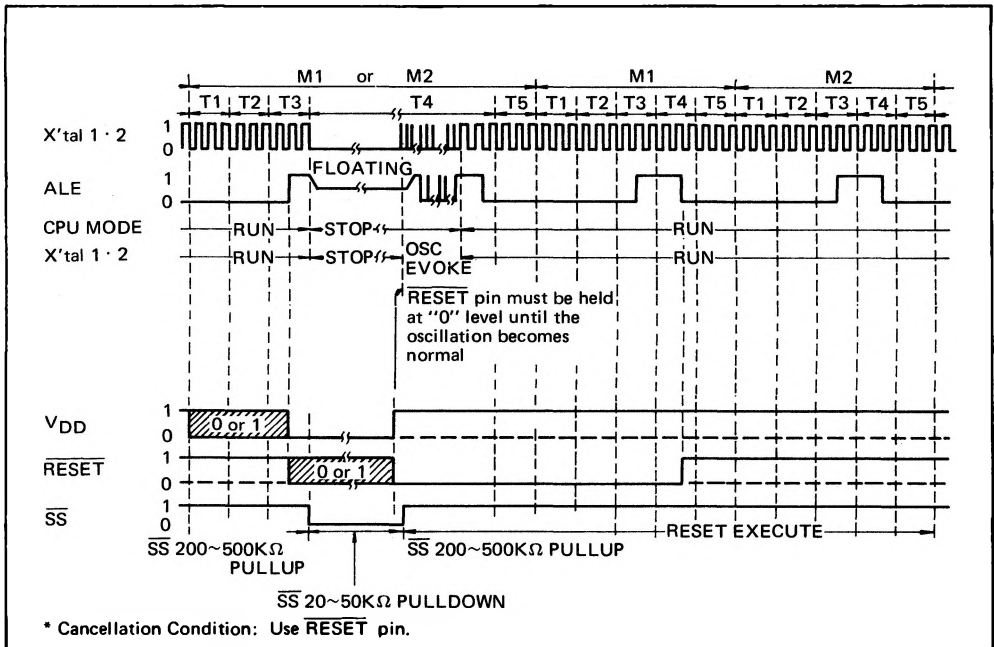

Fig. 4-5 Hardware Power-Down Mode Timing Chart
(1) Use of $\overline{\text{RESET}}$ pin
- The clock generator is activated and the CPU started up when a "1" level is applied to the V_{DD} pin while a "0" level is input to the $\overline{\text{RESET}}$ pin. If this "0" level is kept applied to the $\overline{\text{RESET}}$ pin until oscillation become stable, the CPU will be reset and will start executing from address 0. The timing chart is outlined in Fig. 4-5.
(2) Use of the $\overline{\text{INT}}$ pin during external interrupt enabled status (i.e. following execution of ENI instruction)